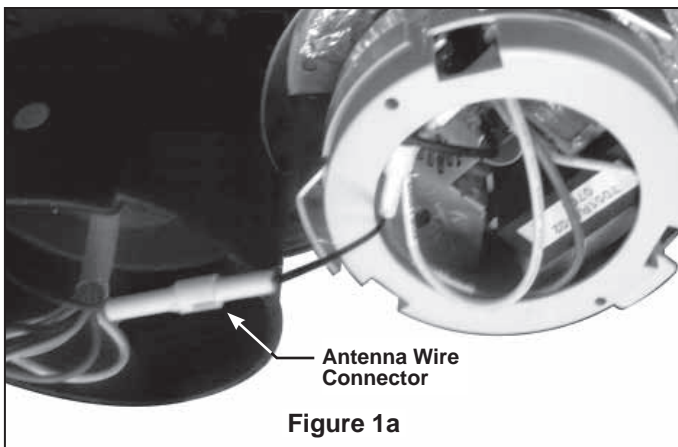

Figure 1a
- **Transmitter:** remove battery cover. Press firmly below arrow and slide battery cover off. Slide code switches to your choice of up or down position. Factory setting is all up. Do not use this position. With a small screwdriver or ball point pen slide firmly up or down (Figure 1a). Replace battery cover on the transmitter.
1. Install receiver unit in the switch cup cover by align the two green dots. Carefully connect the main connector & antenna wire connector and push all wires back into switch housing of fan. (Figures 1a and 1b).